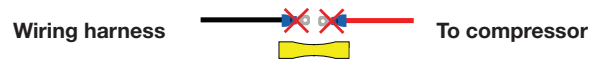

fig. 5
2. Cut off the male terminals on both the harness black wire and compressor red wire. Use heat shrinkable butt connector (R) to connect the two wires together. Apply heat using a heat gun. (Fig. 5)